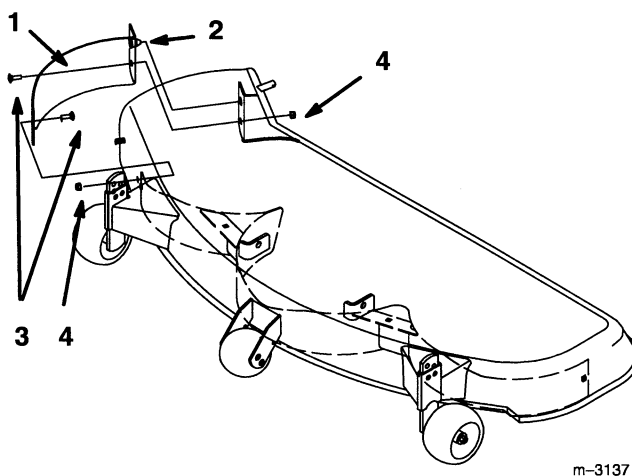

Figure 15
4. Remove locknuts and bolts from discharge cover (Fig. 15). Lower the cover and slide it out of the discharge opening.
5. Install previously removed 5/16–5/8" bolts and 5/16" locknuts in open holes of mower for safety (Fig. 15).